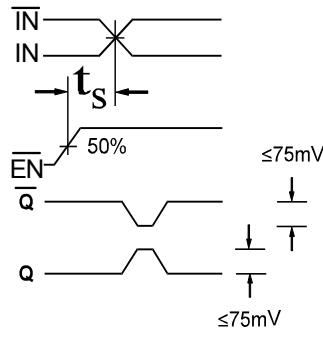

Figure 1. Setup Time
- The setup time is the minimum time that \bar{EN} must be asserted prior to the next transition of IN/ \bar{IN} to prevent an output response greater than $\pm 75mV$ to that IN/ \bar{IN} transition (see Figure 1).